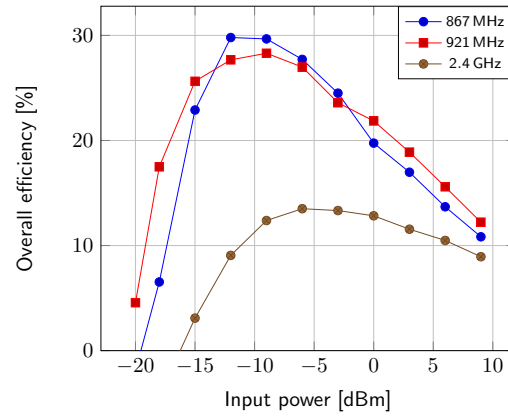

Figure 12: Overall efficiency (RF path and boost converter) with  $V_{BOOST} = 3.5\text{ V}$
- **VBOOST**: Measure the current and the voltage. Repeat the measurement a copious number of times to be sure to capture the current peaks. Figure 12 has been obtained by averaging over 100 measurements configured with a 100 ms integration time.